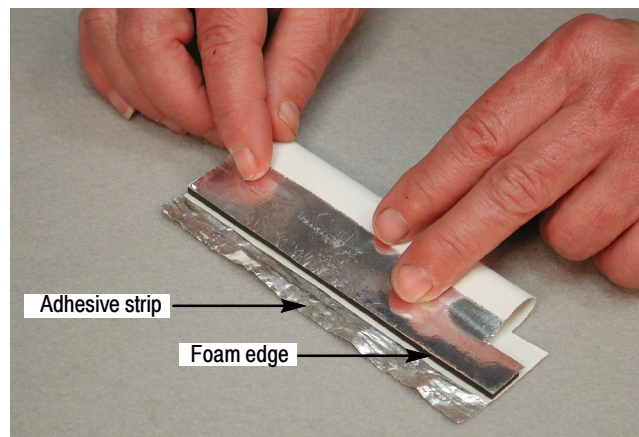

Figure 8: Fold shield
3. Fold the foam edge of the shield up to the lower edge of the adhesive strip (see Figure 8).